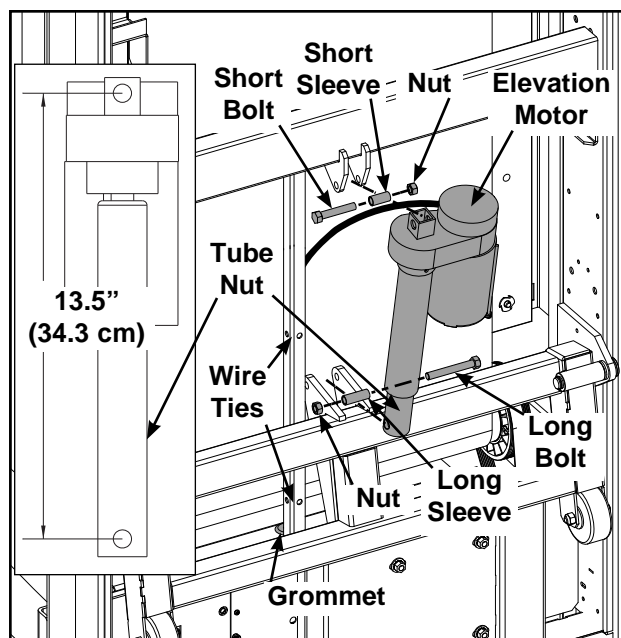

Figure 23
- A. Cut the wire ties and disconnect the elevation motor cable from the motor controller. See Figure 23.
- B. Pull the elevation motor cable out through the grommet in the frame. See Figure 23.
- B. Turn the tube nut with your fingers until it measures 13.5" (34.3 cm) from the center of the top hole to the center of the bottom hole. See Figure 23.
- A. Carefully place the elevation motor in position on the treadmill. See Figure 23.
- B. Slide both bolts and sleeves into the slots and attached the hex nuts as shown in Figure 23.
- D. Route the elevation motor cable along the frame and through the grommet. See Figure 23.
- E. Tie the elevation cable with wire ties to the frame. See Figure 23.